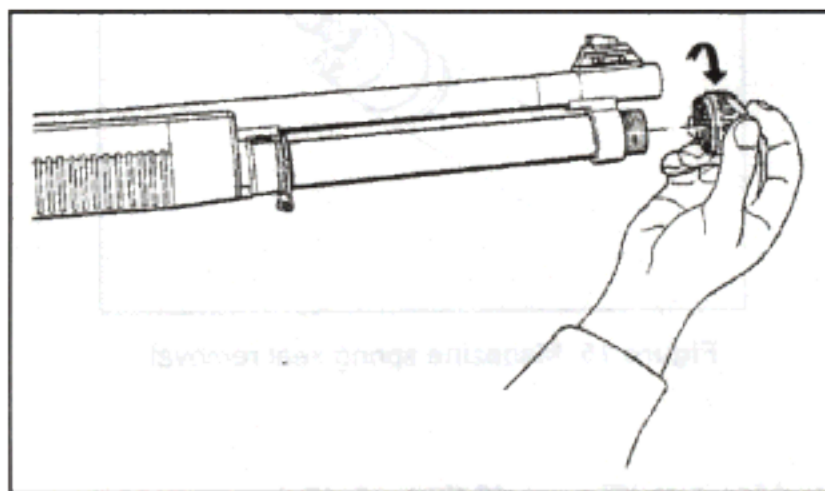

Figure 14. Removing magazine cap
4. **Unscrew magazine cap** – Remove the magazine cap by rotating it in a counter clockwise direction as viewed from the front of the weapon (Figure 14).